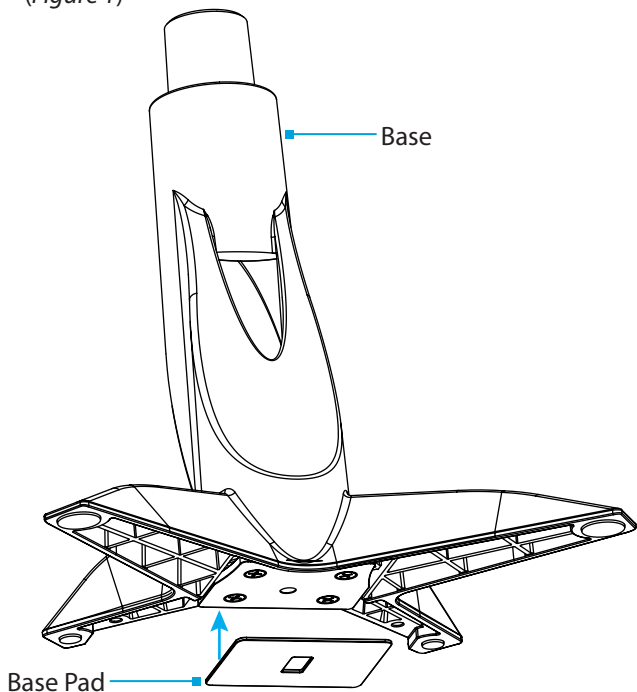

Figure 2
3. Remove the **Adhesive Backing** from the **Base Pad** and affix the **Base Pad** to the underside of the **Base** to complete the **Base Assembly**. (Figure 2)